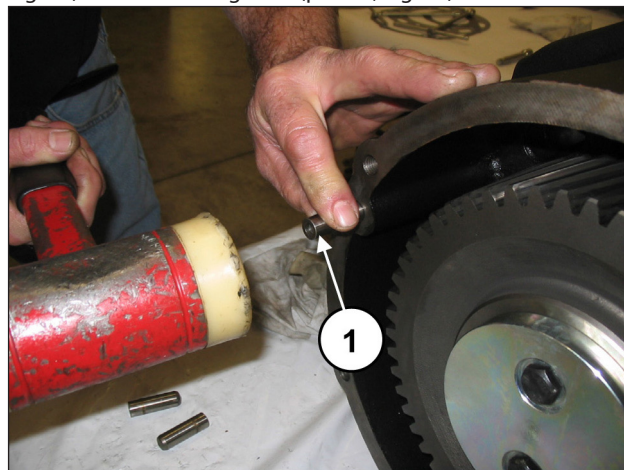
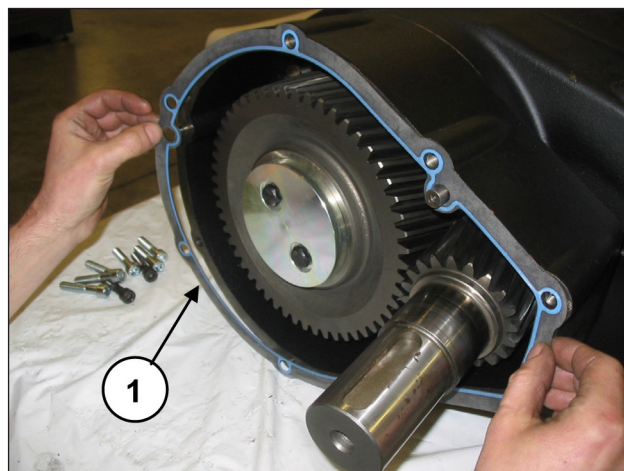

Fig. 64
Fig. 65
Apply the 3 Ø12x40 pins on the reduction gear box (pos. ①, Fig. 64) and insert the gasket (pos. ①, Fig. 65).